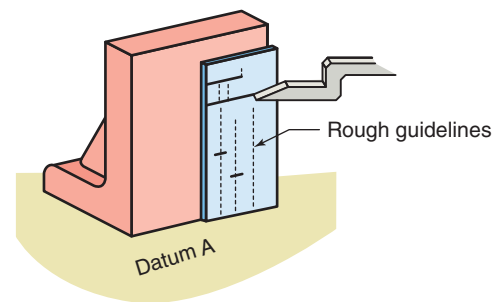
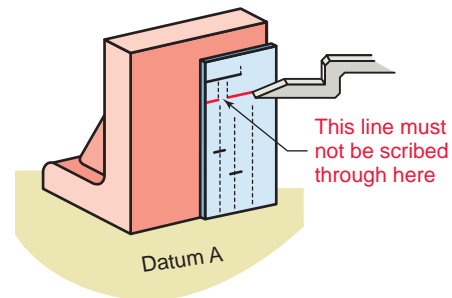

Figure 8-32 Scribing lines parallel to Datum A.
Figure 8-34 Do not scribe in the center of the tab.
2. *Scribe lines parallel to Datum A* (Figs. 8-32 and 8-33).
In Fig. 8-32, there is a deliberate error. Can you find it? What is the solution? The answer is found in Fig. 8-34.
Answer (Fig. 8-34) Notice that the horizontal line being scribed must be broken by the two guides. If not, that line would appear on the finished product!